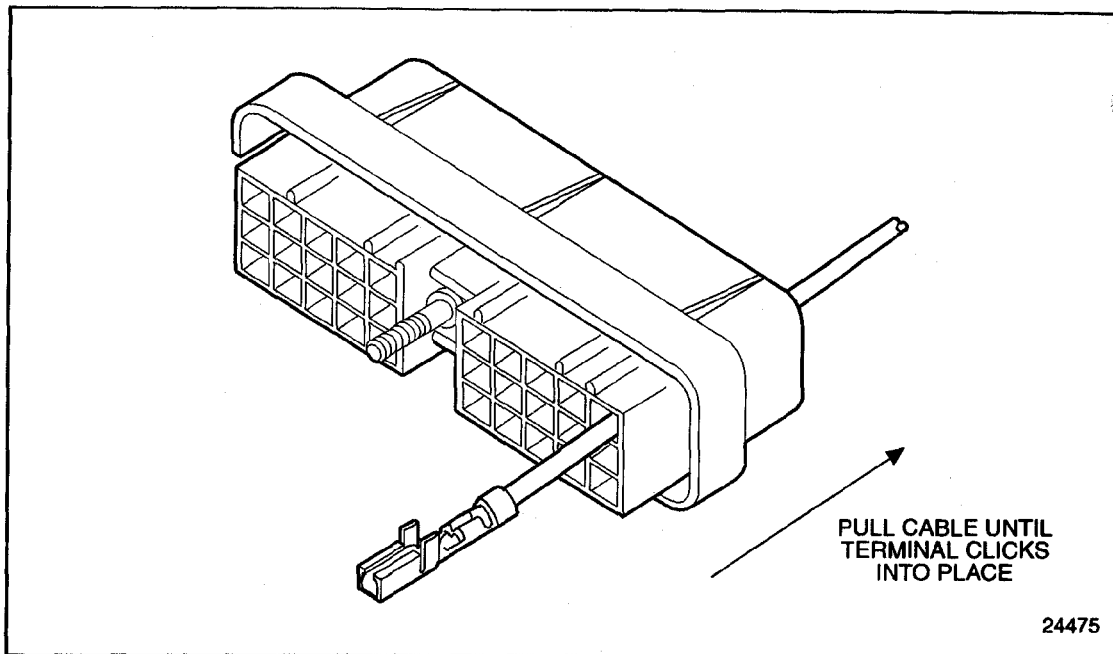

Figure 8-34 Pulling the Terminal to Seat
10. Pull the cable back through the connector until a click is heard. See Figure 8-34. Position the seal into the connector.